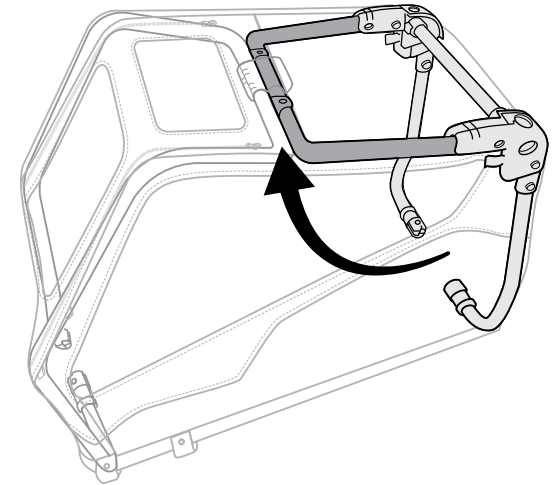
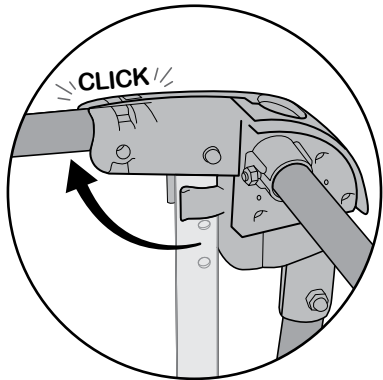

Figure 3
Figure 4
3. Unfold the middle frame tube upwards (Figure 3) until the frame buttons click into place (Figure 4).